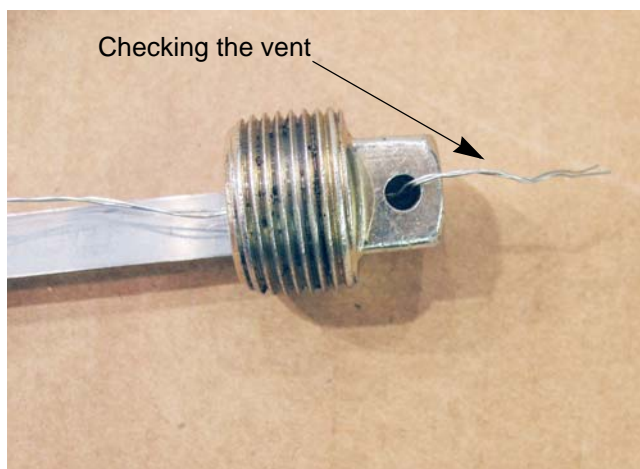

Figure 3.14
- Insert a piece of wire into the vent hole until it comes out of the rivet that attaches the dip stick to the plug. See Figure 3.14.